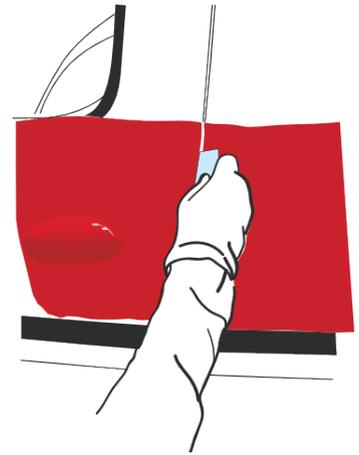

Figure 32
- ▶ To finish, run the squeegee over the cut. Incline the squeegee towards the thinner edge. (FIG. 32). Firmly apply the film over the edges, round parts and neighbouring or opposed areas.